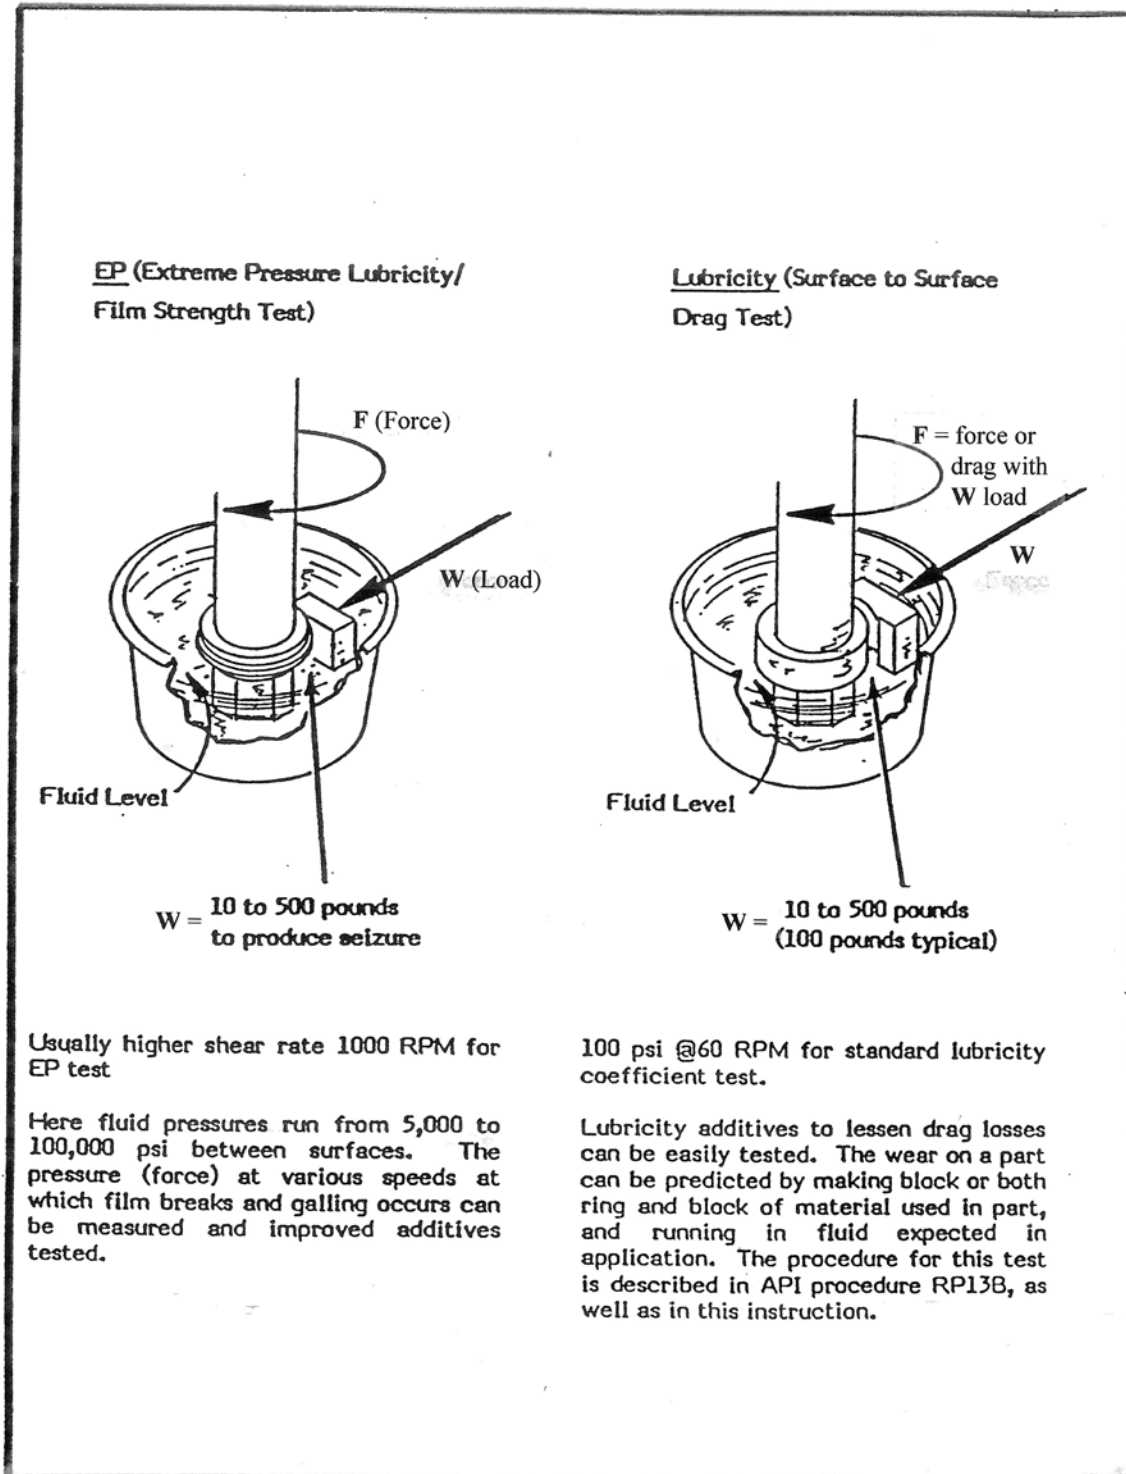

Figure 1 - Comparison of EP and Lubricity Test
The EP tests (Fig. 1) are performed by applying a measured torque with a torque arm to a torque-sensitive, rotating bearing cup. This provides a means of testing lubrication under extreme pressure conditions and produces an indication of the film strength of the fluid being tested. The problem of reduction of friction between the drill string and the borehole requires a different simulation. The more common lubricity test (Fig. 1) measures fluid resistance (lubricating character) between two hardened steel moving surfaces at 100 pounds force (which translates into a 5,000 to 10,000 psi (34,470 to 68,940 kPa) pressure on the intermediate fluid film). During the lubricity test, a steel block is pressed against a rotating steel ring. Load in inch-pounds (in-lb) is read directly from the dial on the torque arm.
against the test ring through the torque arm. The force  $F$  required to slide the block and ring surfaces across each other at a given rate is measured by the power required to turn the test ring at a prescribed number of revolutions per minute. The coefficient of friction,  $\mu = F/W$ . Refer to Figure 1.
There are different types of test blocks and rings for EP tests and for lubricity tests. The rectangular blocks are used for EP tests. The blocks used for lubricity tests have a rounded inset surface. See Figures 1, 4, and 5.
- 5.3.1.2 Install test ring squarely onto tapered portion of shaft. Then, using wrench, secure with test ring retainer nut. Engage shaft lock plunger in hole in shaft to prevent shaft rotation while retainer nut is tightened. (Refer to Fig. 1) Take care not to contaminate outside of test ring. Contamination by skin oil can cause inaccurate test results.